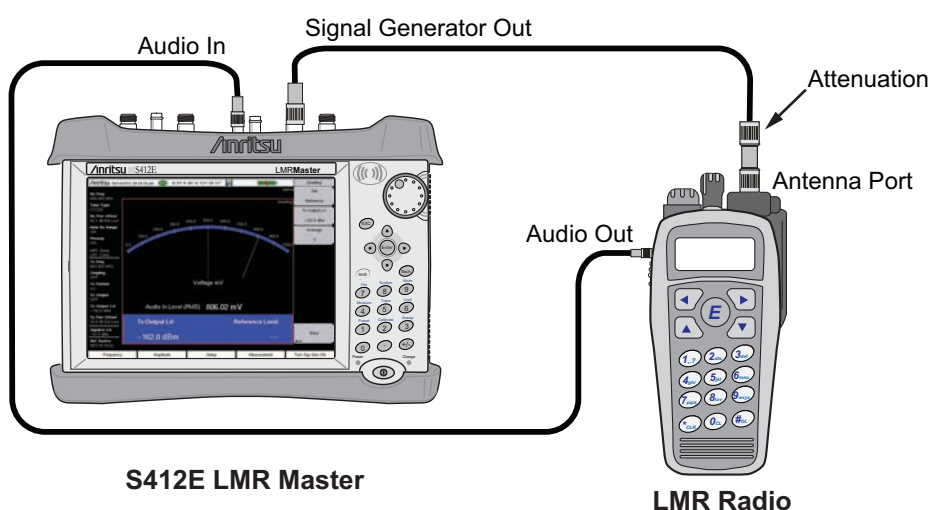

Figure 2-6. Setup for 20 dB Quieting and 12 dB SINAD
3. Connect the LMR Master Audio In port to the radio loudspeaker or audio out connector (Figure 2-6).